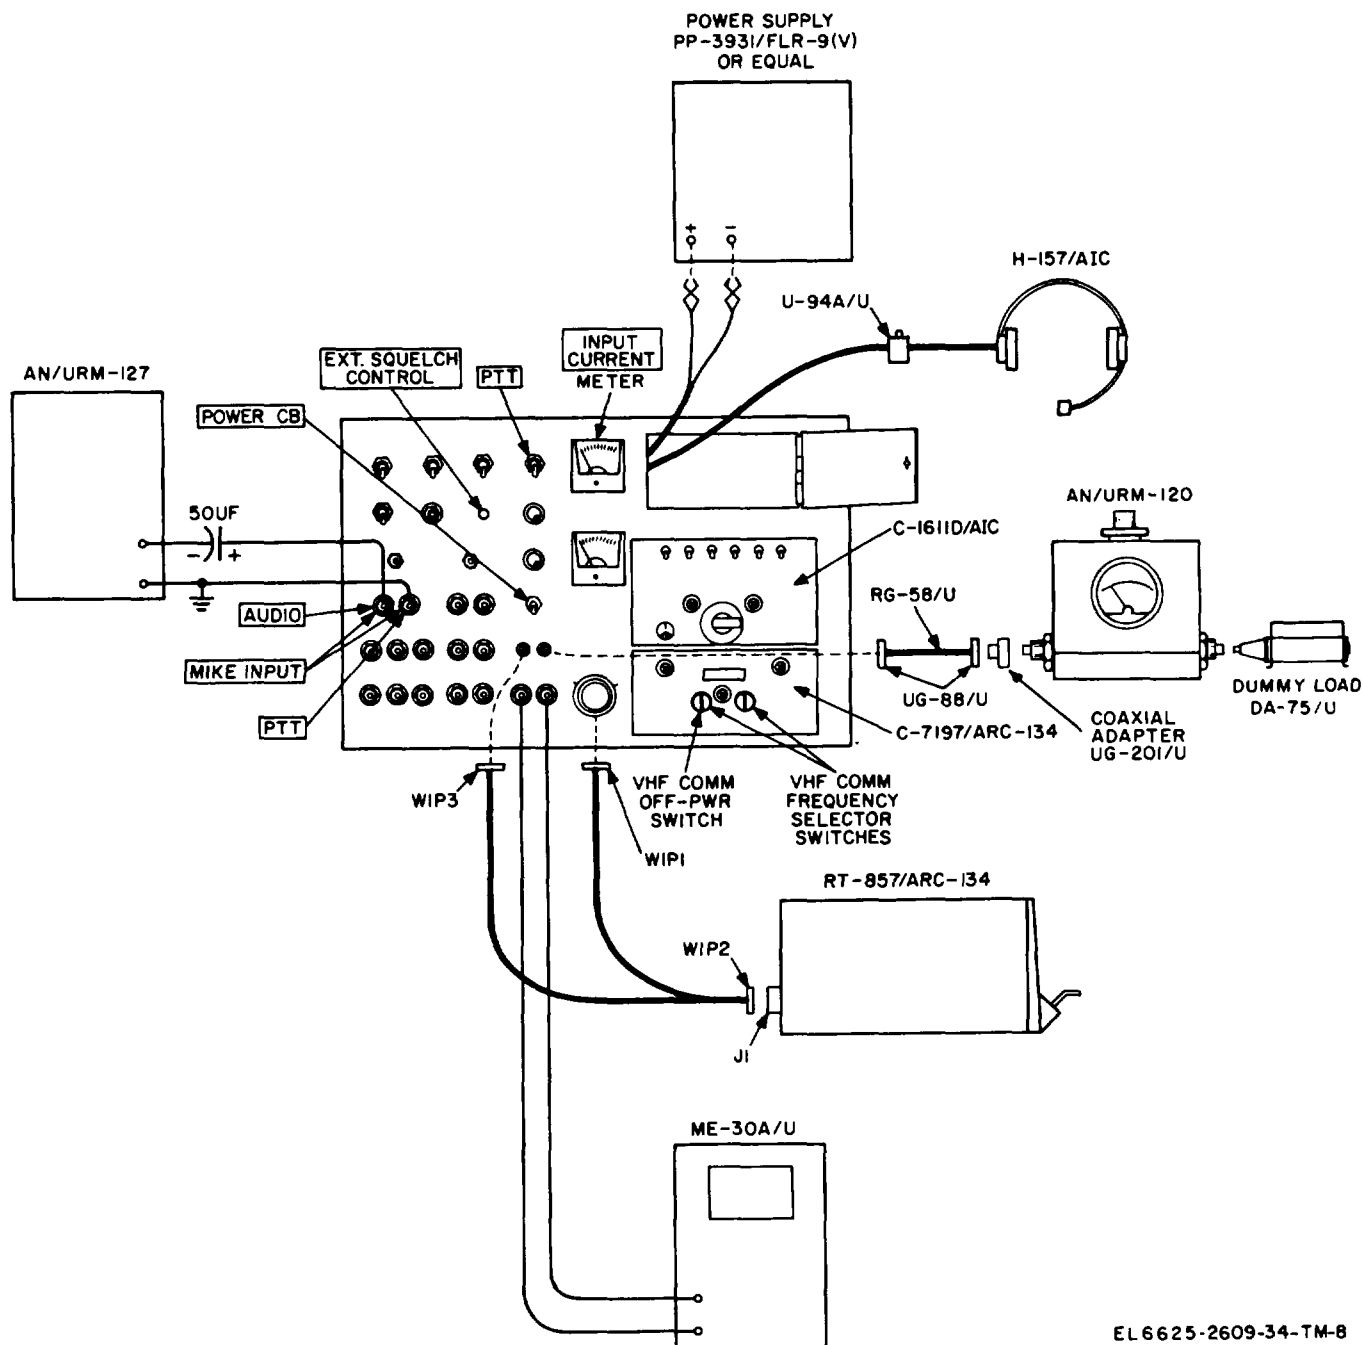

Figure 3-7. Detector circuit, test setup.
- (6) Adapter.
- (7) Two coaxial connectors.
(8) One length of cable.
(9) Capacitor, 50 uf, 25 vdc.
(10) Dummy Load, Electrical DA-75/U.
b. Test Connections and Conditions. Connect the equipment as shown in figure 3-7. Place the C-1611D/AIC transmit-interphone selector switch in position 3, the RECEIVERS 3 switch ON, all other RECEIVERS switches off. and position the VOL control as required. These settings must be maintained during the test.